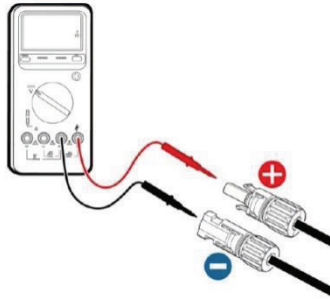

Fig 5.3 Measuring DC input voltage
(2) After the DC connector is connected, use a multi-meter to measure the voltage of the DC input string, verify the polarity of the DC input cable, and ensure that the voltage of each string is within the allowable range of the inverter, as shown in Fig 5.3.